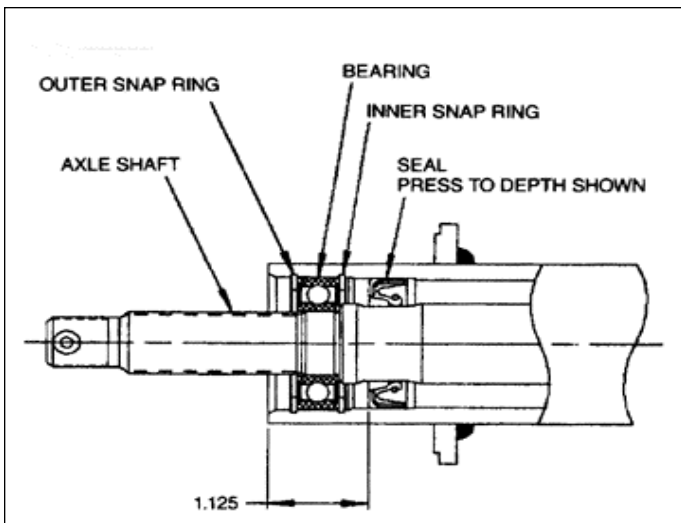

Figure 92 - Axle Components
**Note:** Seal to be installed to dimension shown in axle shaft, bearing, and oil seal disassembly, Figure 92, page 6-26. Seal lip should be coated uniformly with light oil or grease before inserting axle shaft.